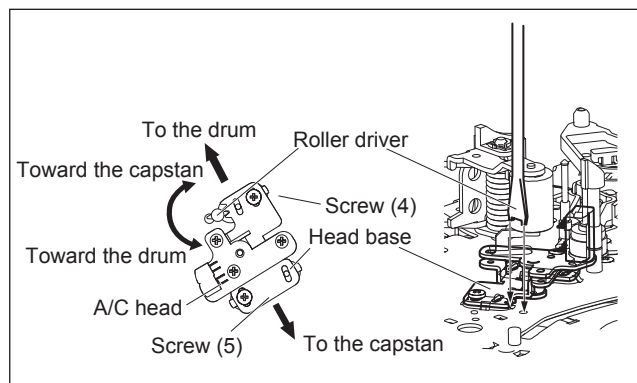

Fig.4-2e
- Apply the external trigger signal to D.F.F (E), to observe the V.PB FM waveform at the measuring point (D).
- Loosen the screws (4) and (5), then set the Roller driver to the innermost projected part of the A/C head. (See Fig. 4-2e.)
- Rotate the roller driver so that the A/C head comes closest to the capstan. From there, move the A/C head back gradually toward the drum until the point where the FM waveform is maximized for the second time, and then tighten the screws (4) and (5) temporarily.
- Fine-adjust A/C head base position to maximize the FM waveform, and then tighten the screws (4) and (5) firmly.